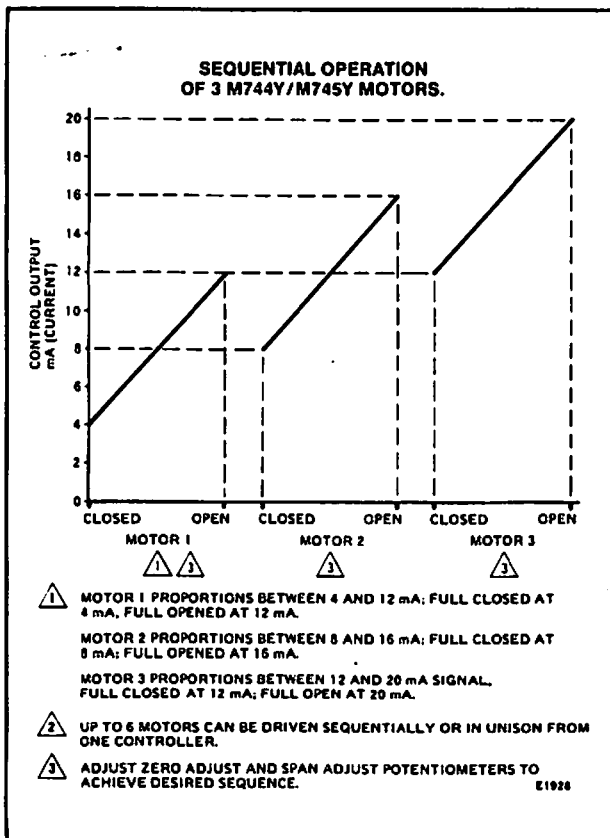

FIG. 9—SEQUENTIAL OPERATION OF 3 M744Y/M745Y MOTORS.
8. For sequential operation (as shown in Fig. 9), repeat above steps for each motor.